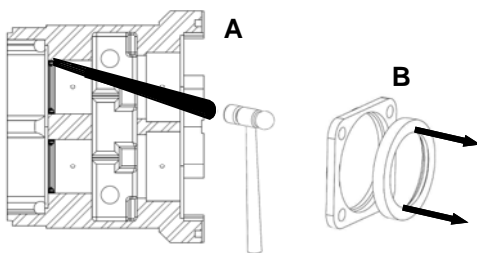

Figure 34: Removing Oil Seals
5) Remove all the shaft shims from the gear case and label which shaft and bore they came from. If the shafts are to be reused, they will need to be reinstalled with the original shims. Failure to do so could result in damage and misalignment in the pump body. Remove and discard the rear oil seals from the back of the gear case. Use a long, non-metallic rod and a soft mallet to punch the seal out from the front side (Figure 34, A). Remove and discard the front bearing seals from the bearing retainers by pressing them out (Figure 34, B). Clean the bearing retainers as they will be reused. Clean excess grease and sludge inside of the gear case before reassembling.